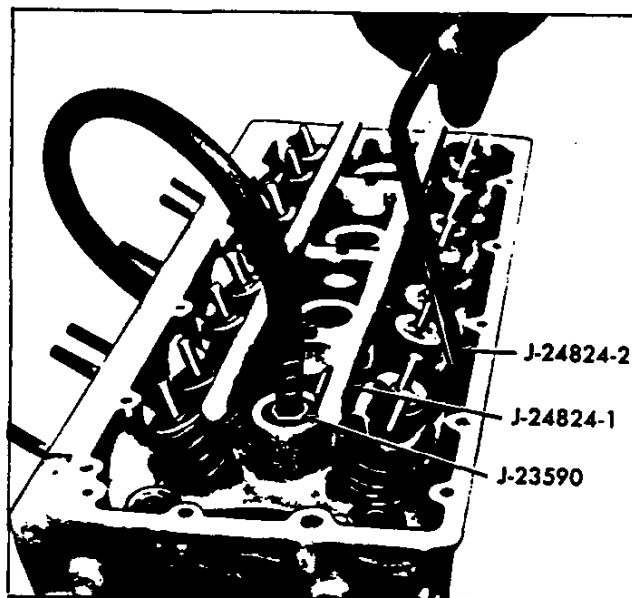

Fig. 19—Compressing Valve Spring
3. Install Tool J-24824-1, Spring Depressor Holder to the cylinder head and secure with the provided screws (Fig. 19).
5. Using Tool J-24824-2 to compress the valve spring, remove the valve locks and release compression on spring and remove tool (fig. 19).